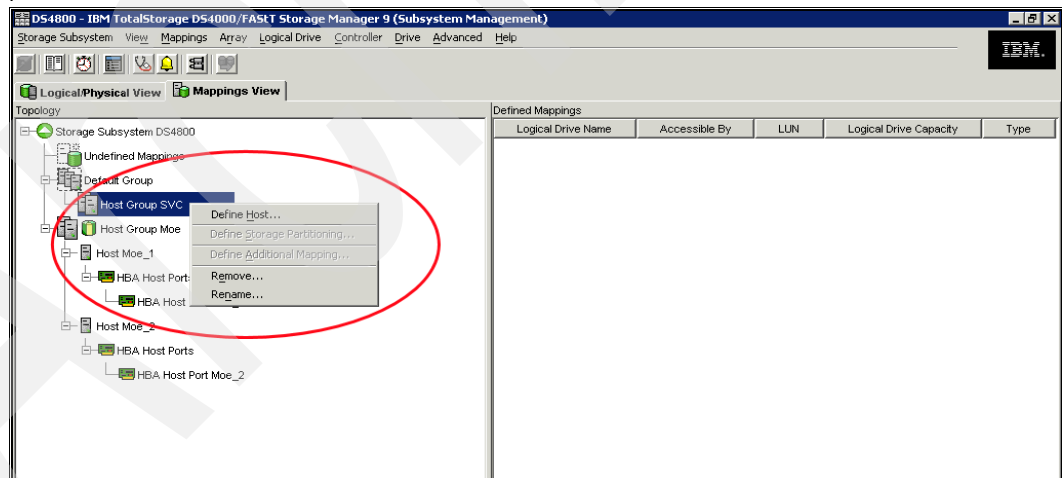

Figure 4-7 Creating a host
2. Create a host for each SVC node. (Figure 4-7 shows creating a host within a host group.) Each node will have 4 WWPNs.